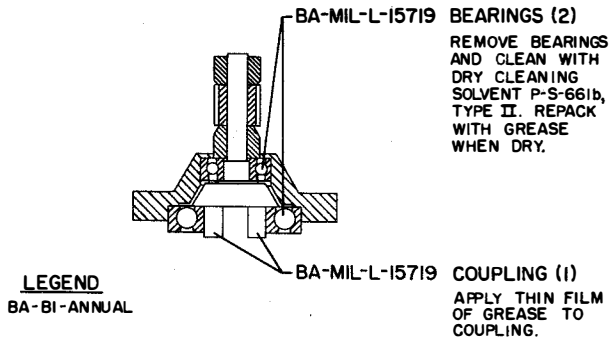

Figure 6-30. R-f Tuner, Cross Section of Drive Motor Shaft Extension, Lubrication
(4) BIENNIAL LUBRICATION.—The following illustrations contain lubrication procedures to be followed for the biennial lubrication interval:
- (a) Figure 6-30